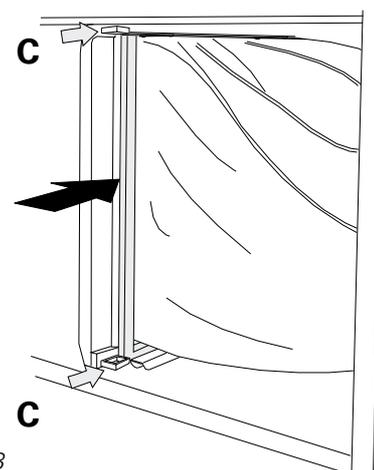

Fig. 8
- Push in the handles (**C** in Fig. 8) at the upper and lower edges of the filter mounting bracket, to close the off-centre guide.